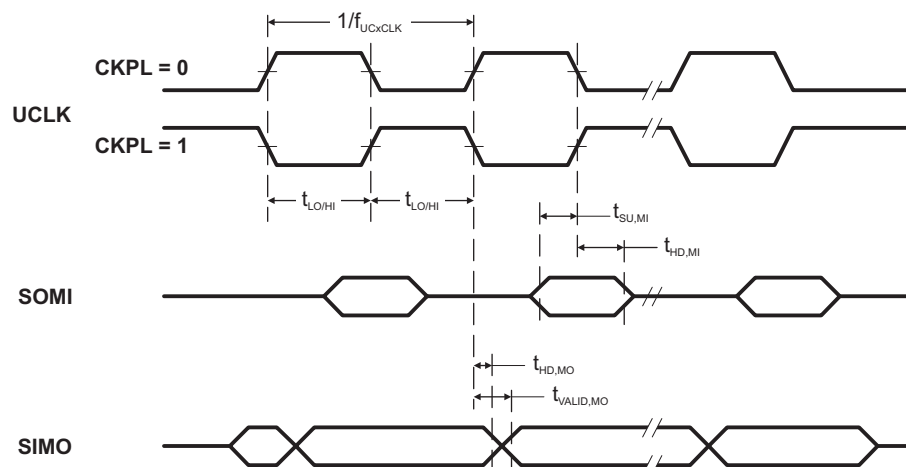
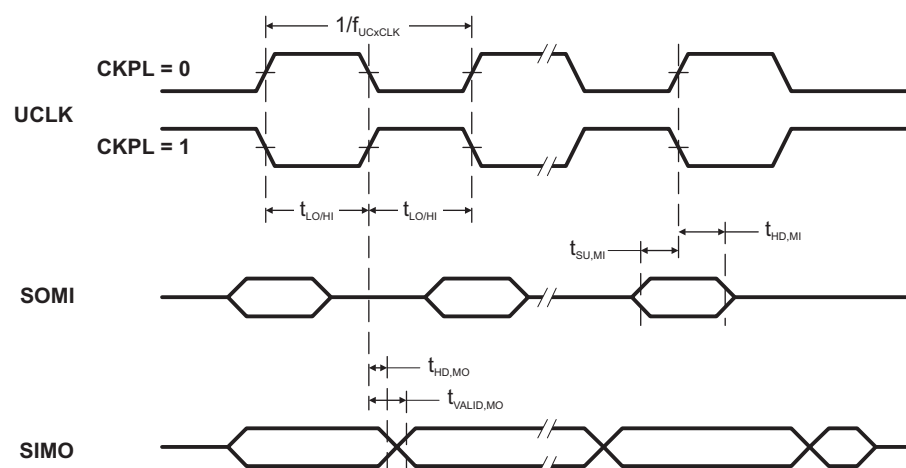

Figure 14. SPI Master Mode, CKPH = 0
Figure 15. SPI Master Mode, CKPH = 1
(see Note ⁽¹⁾, Figure 14 and Figure 15)
- (2) Specifies the time to drive the next valid data to the SIMO output after the output changing UCLK clock edge. See the timing diagrams in Figure 14 and Figure 15.
- (3) Specifies how long data on the SIMO output is valid after the output changing UCLK clock edge. Negative values indicate that the data on the SIMO output can become invalid before the output changing clock edge observed on UCLK. See the timing diagrams in Figure 14 and Figure 15.
- Specifies the time to drive the next valid data to the SOMI output after the output changing UCLK clock edge. See the timing diagrams in Figure 14 and Figure 15.
- Specifies how long data on the SOMI output is valid after the output changing UCLK clock edge. See the timing diagrams in Figure 14 and Figure 15.